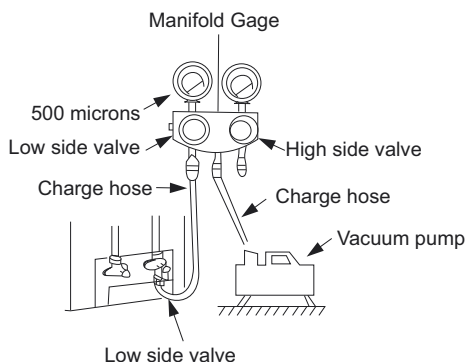

Fig. 14 – Manifold
- 3 Fully open the low side of the manifold gage (see Fig. 14).